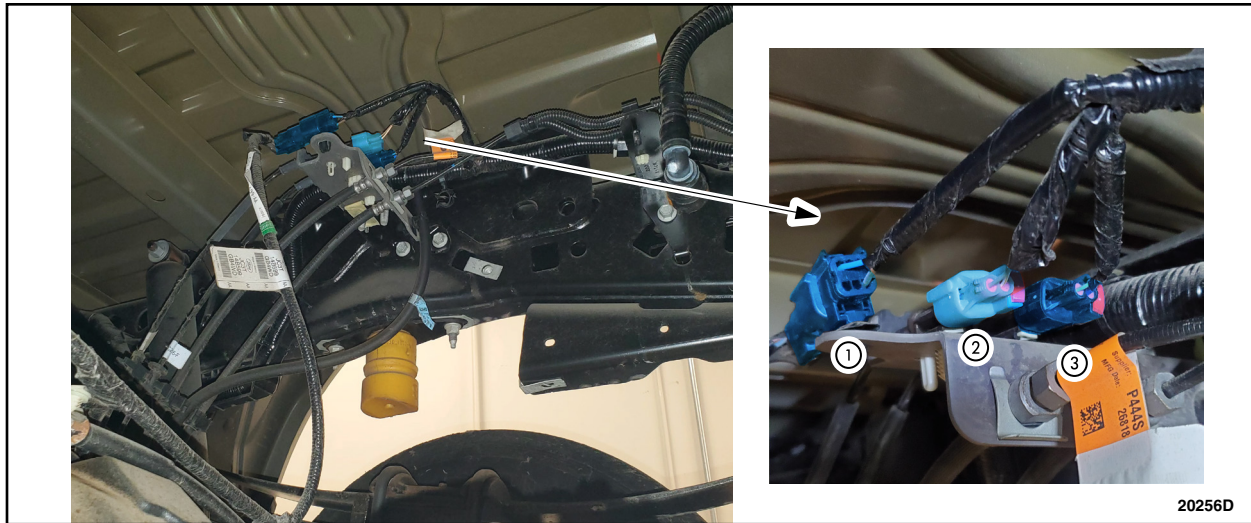

FIGURE 5
9. Disconnect the three electrical connectors on the brake line bundle. See Figure 5.